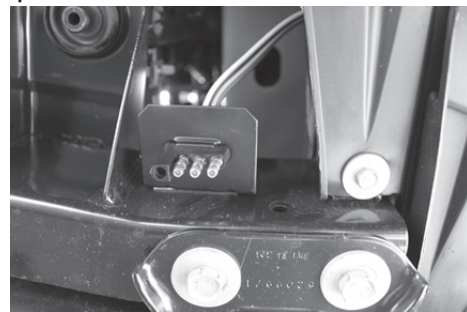

Figure 7
14. Locate the front frame rail that goes across the front of the vehicle. Locate a suitable position to mount the 4-Flat bracket shown in **Figure 7** Using the bracket as a template mark the two holes and drill two 3/32" holes and attach the bracket using the two remaining screws. ***Caution: Take care not to drill through the body or any exposed surface.***